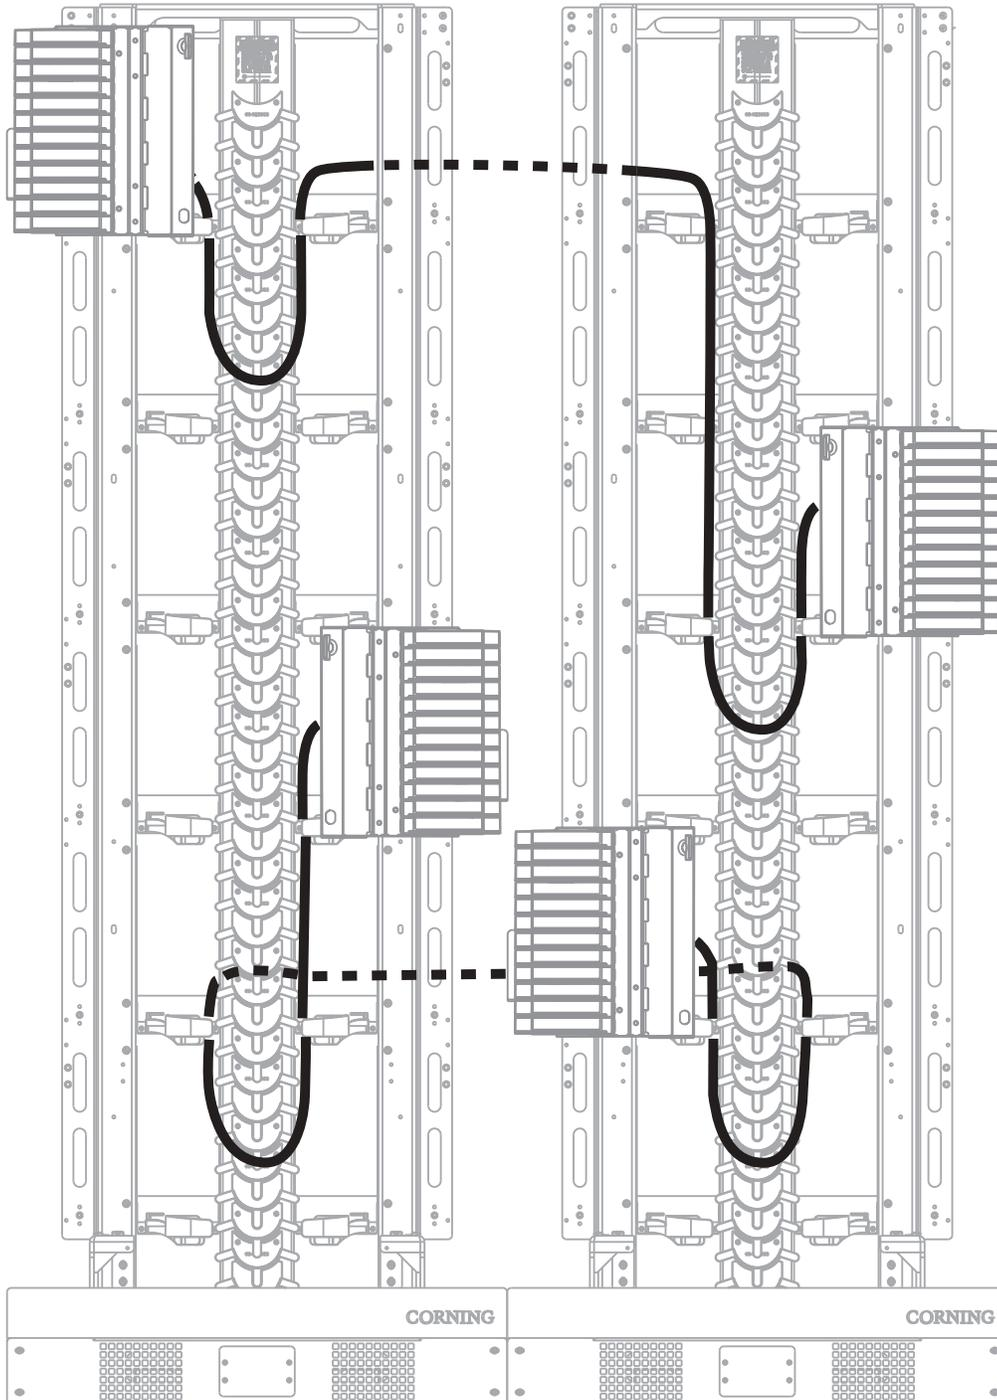

Figure 22 — Interbay patch cord slack storage
- Some slack is always necessary so that the module can be pulled out later for maintenance. For an out-of-bay (interbay) patch cord, route the cord as indicated in Figure 22.